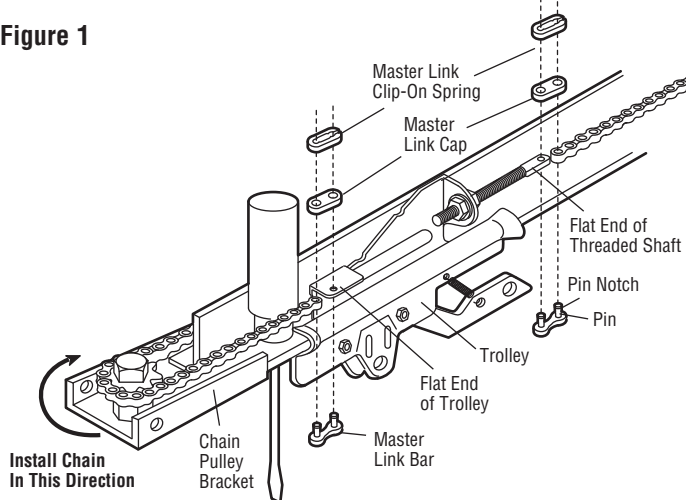

Figure 2
- Continue along the rail and around the motor unit sprocket (Figure 2). The sprocket teeth must engage the chain. Continue forward to the trolley threaded shaft.
- Continue along the rail and around the motor unit sprocket (Figure 2). Proceed back around the correct groove in the chain spreader (Figure 3). The sprocket teeth must engage the chain.